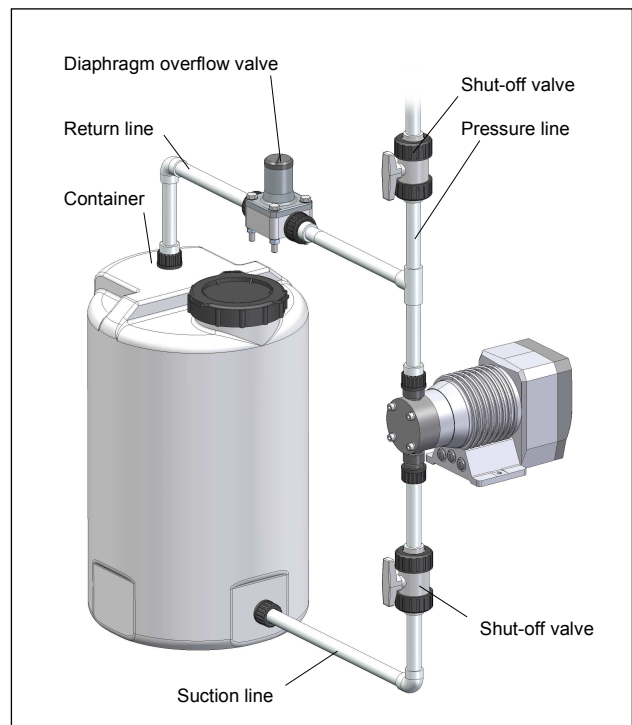

Fig. 21 System with (external) overflow valve
- install overflow valve (Fig. 21)